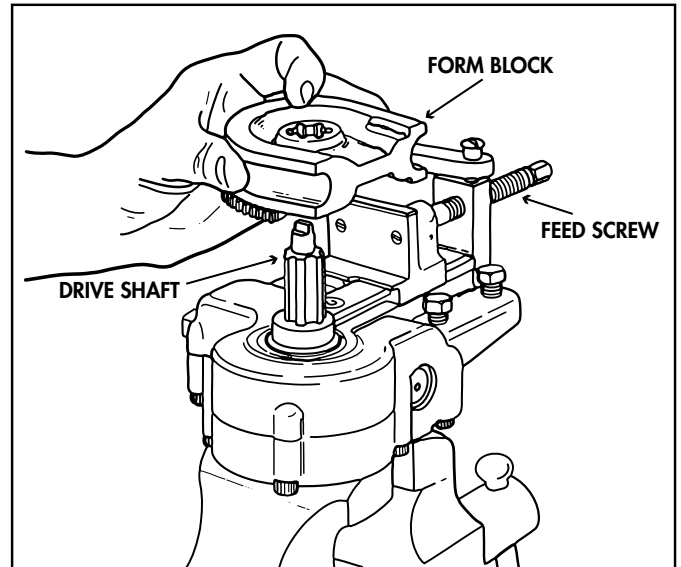

Figure 4. Placing the Form Block on the Drive Shaft Spline
c. Select the proper size form block and install it on the drive shaft. (See figure 4.) Rotate the squared countershaft drive end (37, figure 12) by hand to position the form block with the starting point of the groove parallel with the form shoe, when installed.